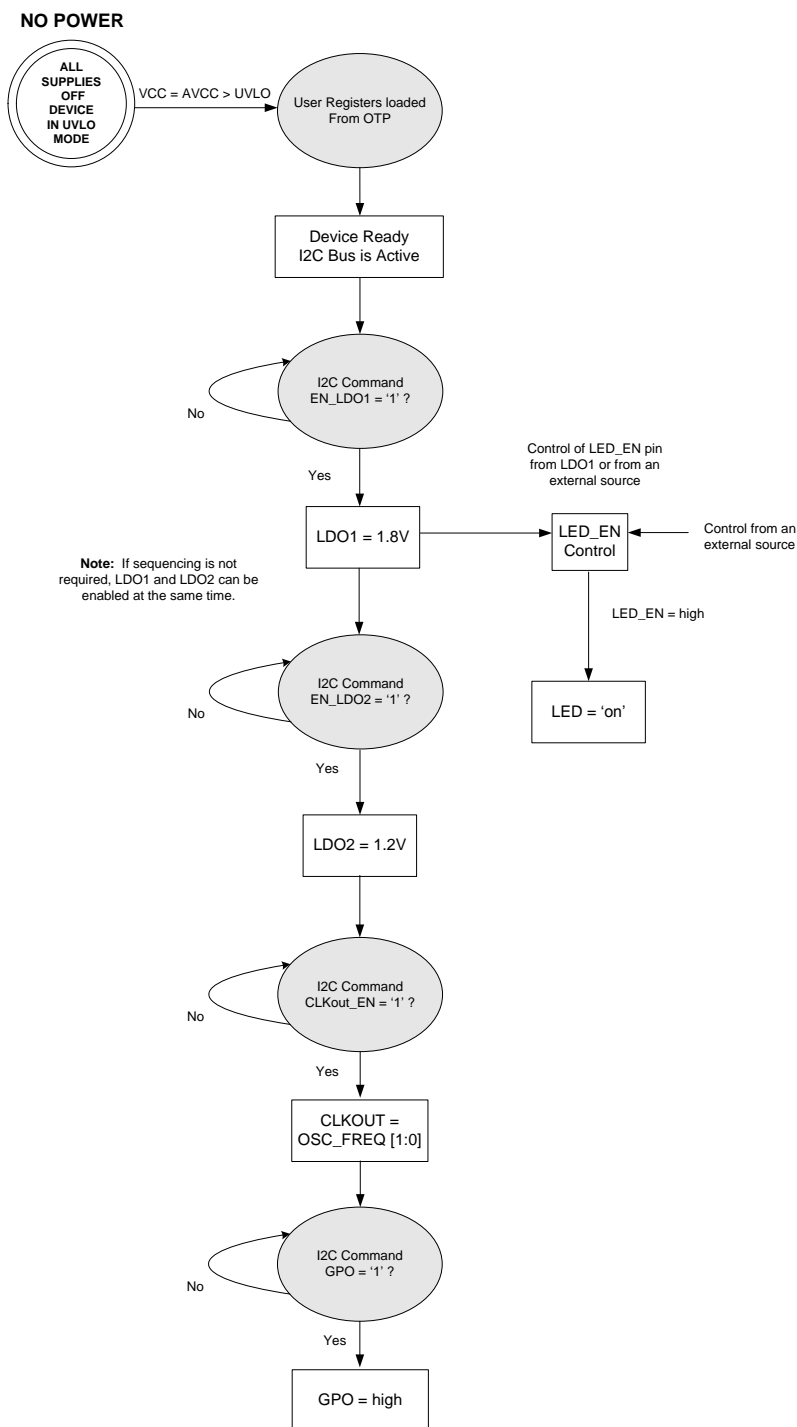

Figure 6. State Diagram
4. Using the 4kByte OTP memory I2C address, write the desired value to a specific address using the protocol shown in Figure 6.